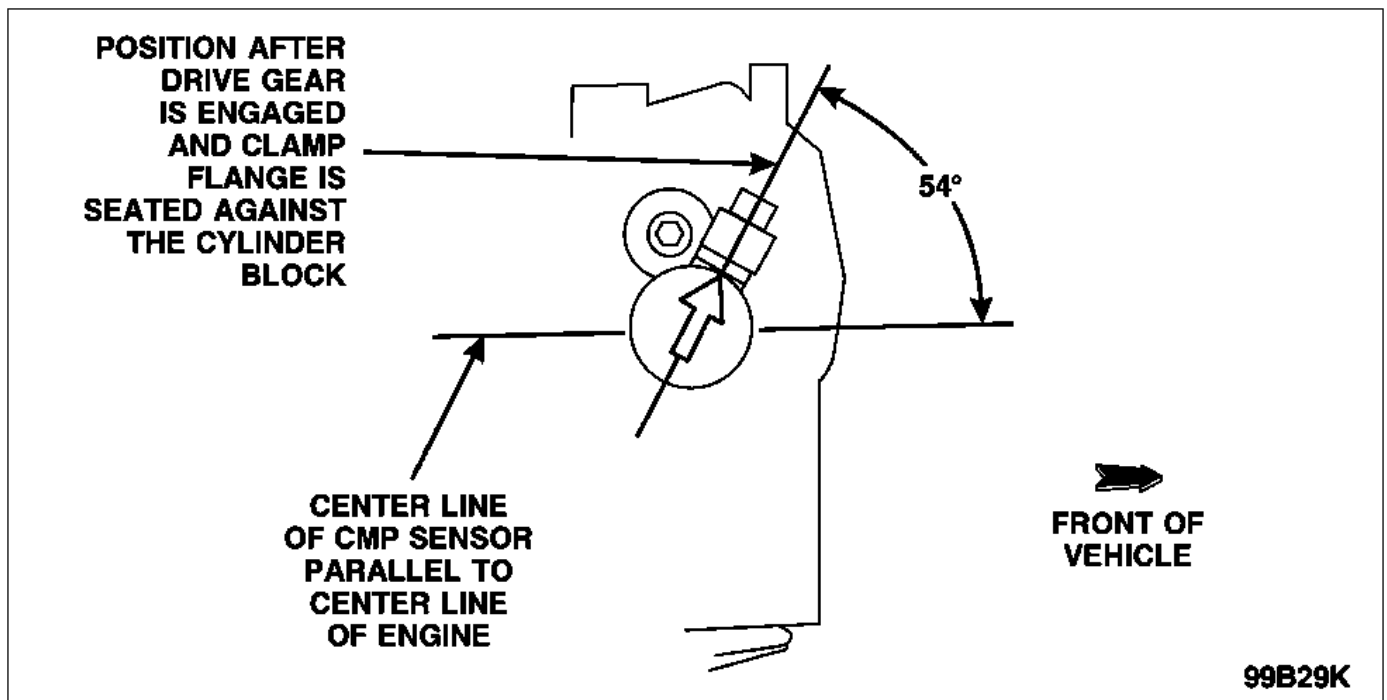

FIGURE 11
- Insert the camshaft synchronizer assembly in the front cover. Install the synchronizer assembly so that the arrow on the alignment tool is 54 degrees from the centerline of the engine. See Figure 11. This ensures that the CMP sensor electrical connector has proper clearance.